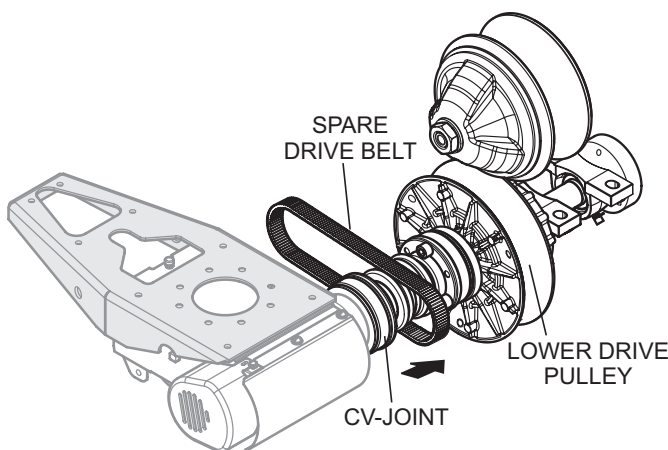

Figure 20. Spare Drive Belt Routing
4. Slide the spare drive belt over the CV-joint (Figure 20) and onto the lower drive pulley.